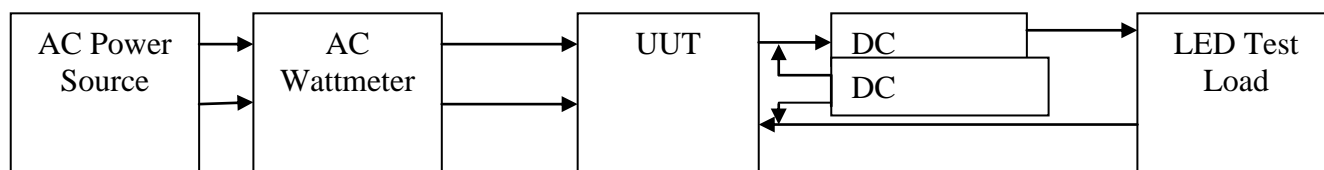

Figure 9. Test Set Up
1. Connect the Unit Under Test (UUT) per the test set up in Figure 9.